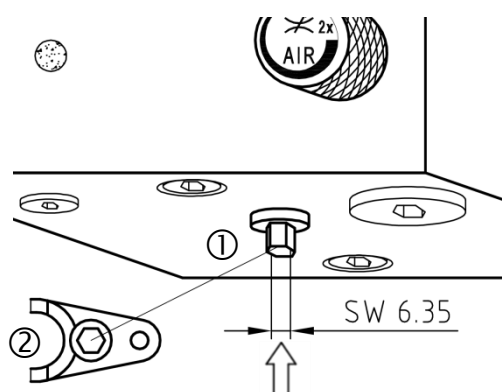

Fig. 18: Vent screw ① on underside of metering block – tool ② with hex socket
8.2.2 Open the vent screw (Fig. 18 ①) on the underside of the metering block by hand or with the service tool (Fig. 18 ② SW 6.35) by approx. 2 turns and drain the lubricant until it comes out without any bubbles (duration: approx. 5 seconds); then close it fully again. Tightening by hand is sufficient (O-ring locking). To flush out the hydraulic system or to empty the reservoir, the vent screw can be unscrewed completely.